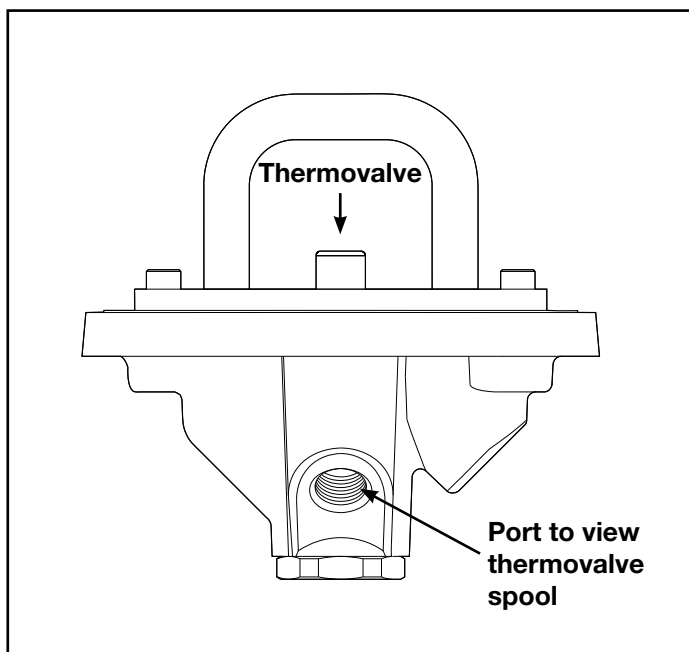

Figure 9
**Step 4:** While looking into the fluid port of the bottom plate (see Figure 9) flow cold water over the thermovalve for 30 seconds, then run hot water over the thermovalve and determine if the thermovalve spool is opening and closing.